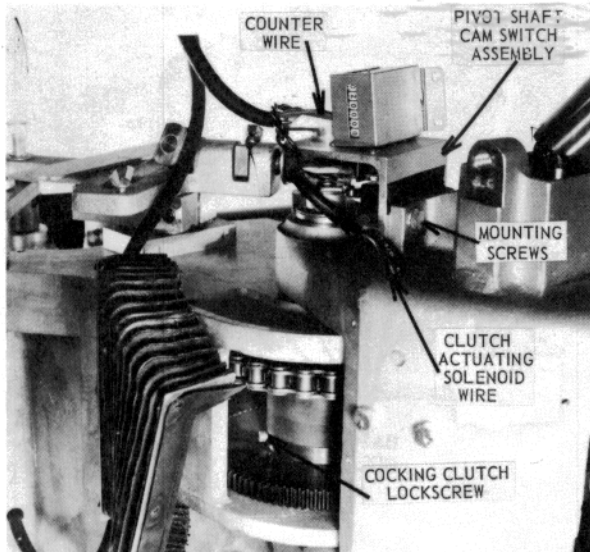

Figure 47 – Pivot Shaft Cam Switch and Counter
| <p>8.4 Defective pivot shaft cam switch. Also one on timing motor cam microswitch.</p> <p>8.5 Defective timing cam switch.</p> <p>8.6 Angling solenoid coil improperly attached.</p> <p>8.7 Pivot shaft cam incorrectly positioned.</p> <p>8.8 Pivot shaft cam not depressing roller on pivot shaft cam switch enough to actuate switch.</p> <p>8.9 Timing cam switch and pivot switch wired in "normally closed" position.</p> | <p>8.4 Turn trap "On" and allow to idle in the cocked position. Place angling switch on "Auto-Angle". Manually depress the roller follower of the pivot shaft cam microswitch (refer to Figure 47, page 16). While holding it down a series of intermittent clicks should be heard from inside the trap. This sound is the angling solenoid coil being energized each time the cam on the timing motor inside the cover closes its microswitch. If no sound is heard, replace the pivot shaft cam microswitch referred to in section VII-2.1.7, page 16.</p> <p>8.5 Manually depress the roller on the timing cam microswitch (see Figure 84, page 24). A slightly audible click should be heard. If not replace timing cam switch.</p> <p>8.6 Tighten the two angling solenoid coil mounting screws. Reorient the solenoid if it does not disengage the angling clutch when retracted (simulate the energized position to observe this).</p> <p>8.7 See that the flat edge of the pivot shaft cam (see Figure 47, page 16) clears the microswitch roller by 1/8" - 3/16" when the trap is in the cocked position.</p> <p>8.8 "Safe Release" the trap. Position the switch so that manually depressing the roller further fails to cause the small click to be heard when this microswitch closes.</p> <p>8.9 Reconnect to "normally open" contacts.</p> |
- 2.1.6 Rotate the clutch until the cocking clutch lock screw can be backed out about 1/4" with an allen wrench. This screw is the larger of two screws through the side of the cocking clutch, just above the gear (see Figure 47).
- 2.1.7 Remove the pivot shaft cam switch assembly by removing the switch bracket mounting screws. (see Figure 47).
- 2.1.8 Disconnect the wires to the counter and clutch actuating solenoid from the terminal block (see Figure 47).